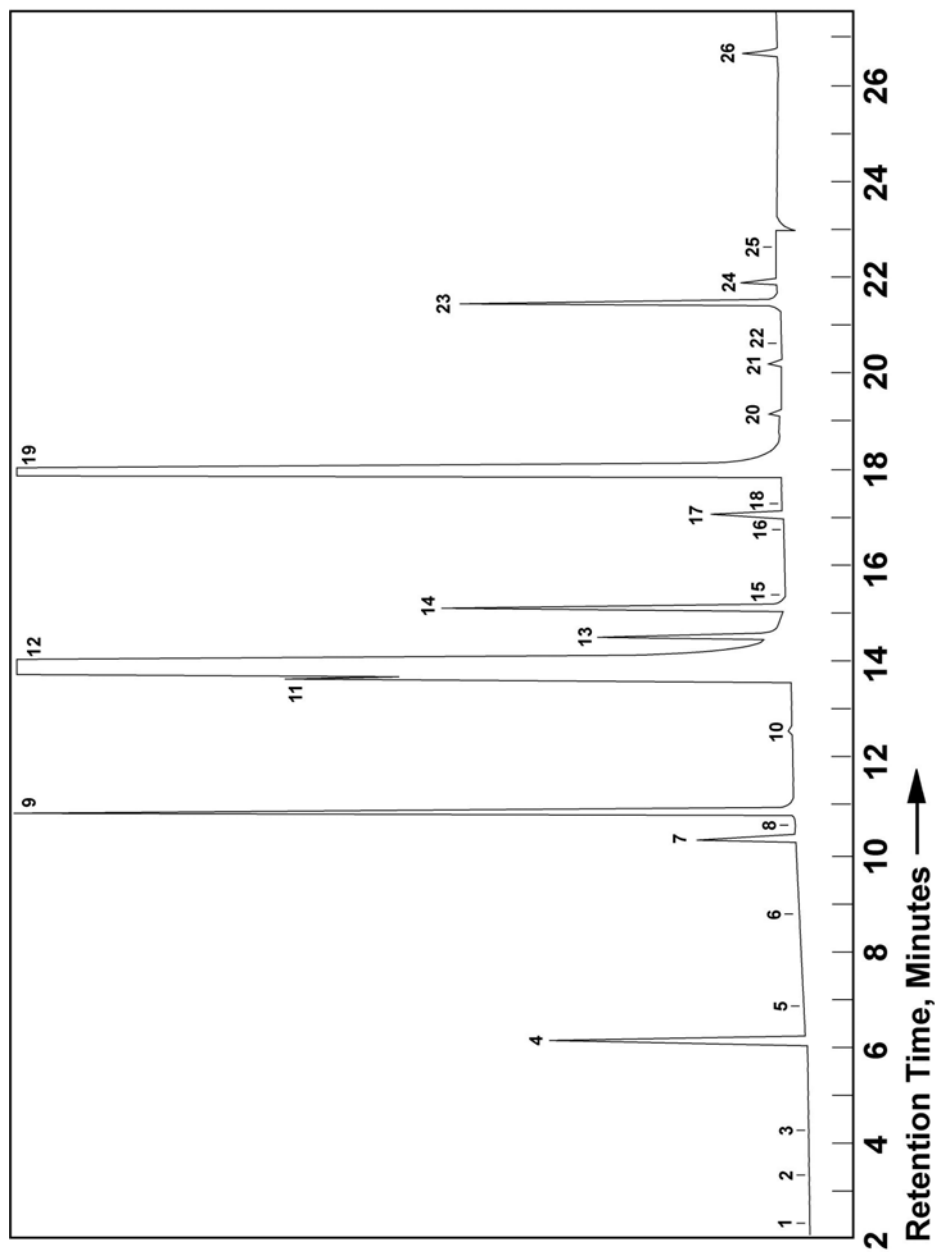

Figure 2
17. Backflush the GC column immediately after the elution of 2-methyl-2-butene (approximately 23 minutes for the conditions listed). If no 2-methyl-2-butene is present in the sample, follow the pattern of the peaks shown in Figure 2, and backflush at the appropriate time.
18. Identify the components of interest by comparing the chromatogram obtained to the Typical Chromatogram (Figure 2) and Table 2.